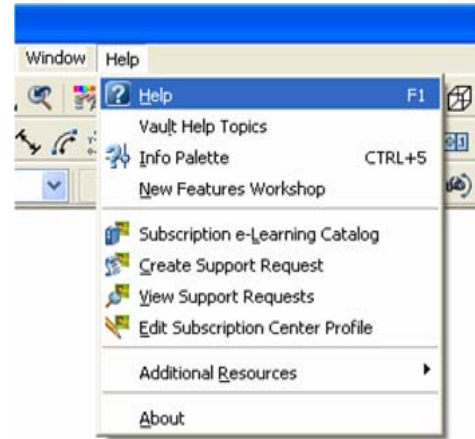
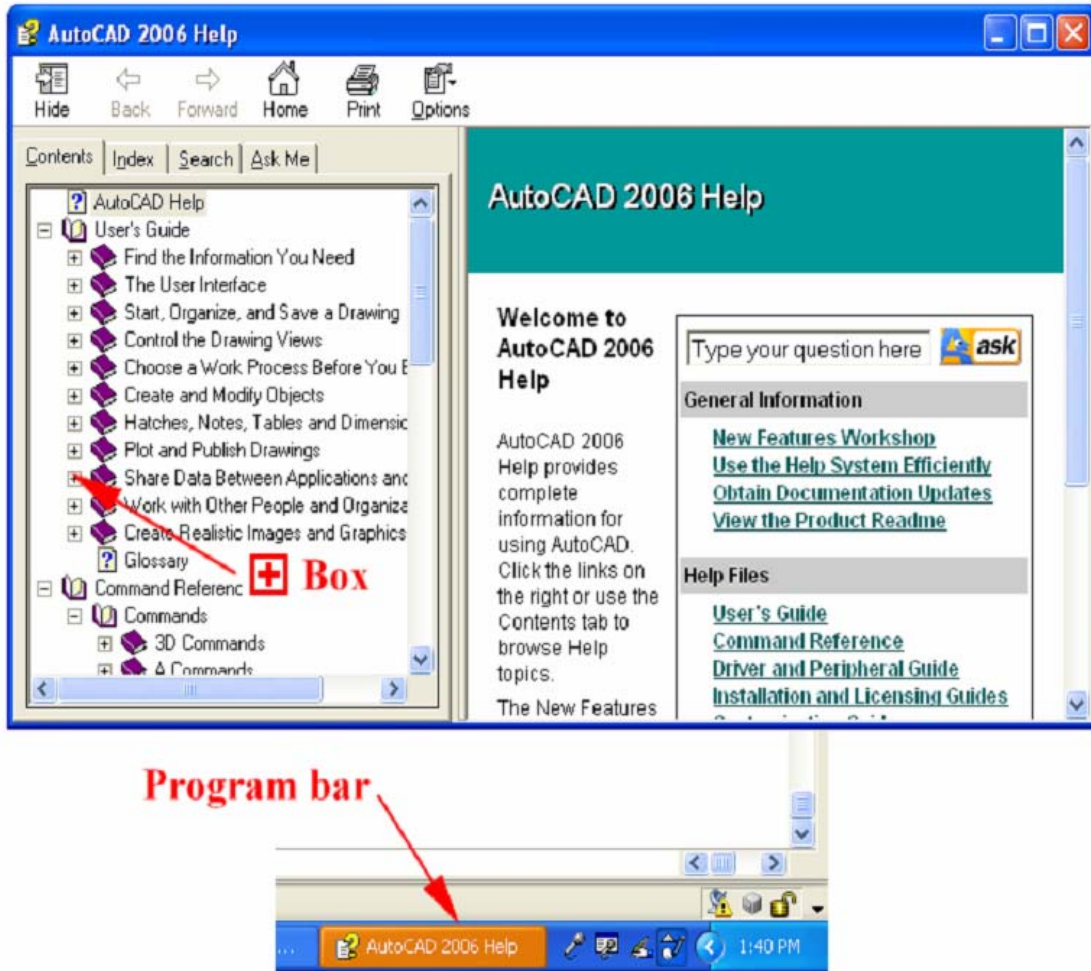
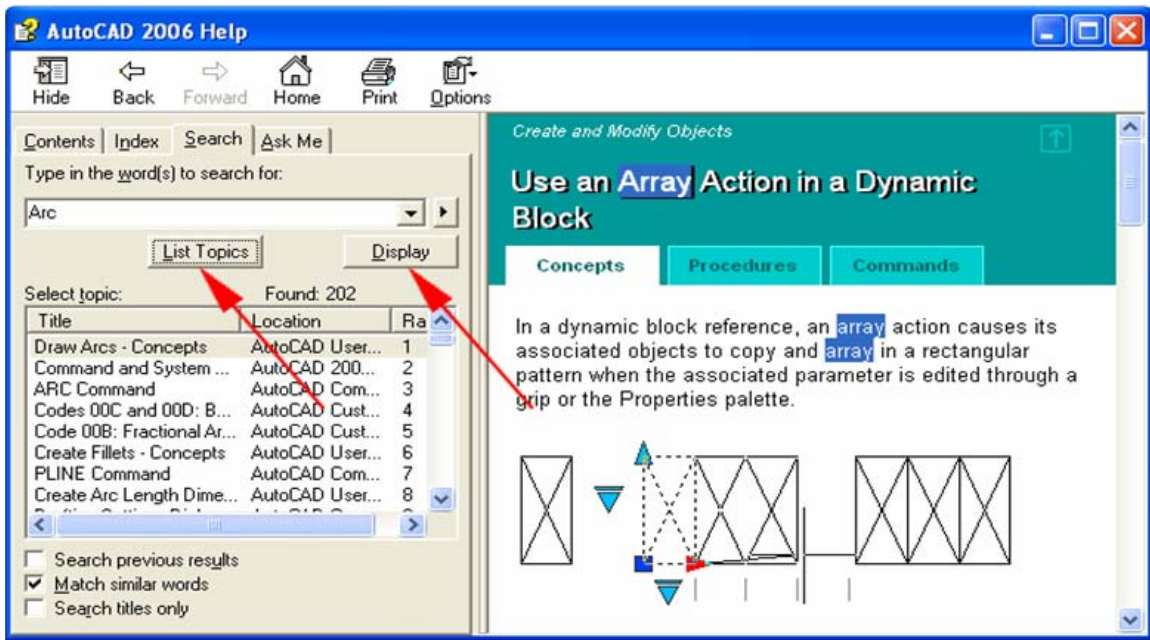

Figure 1-5F: Clicking-open the Help pull-down menu, or pressing the F1 key on the keyboard.
Figure 1-5G: The AutoCAD 2006 Help window with its bar docked on the Start menu bar at the bottom of the screen.
Figure 1-5H: The Search engine for AutoCAD program information.
**Help** pull-down menu (the rightmost on the menu bar), and choose the **Help** option (Figure 1-5F), or press the **F1** key on the keyboard to select the same menu, the **AutoCAD 2006 Help** window opens with its bar docked on the **Start** menu bar at the bottom of the screen (Figure 1-5G), if the **AutoCAD 2006 Help** window is hidden, then click bar to bring the window to the front. The **AutoCAD 2006 Help** window has two main panels; the left panel has several tabs; the **User's Guide** is under the **Contents** tab; the **User's Guide** is organized by topics; and to access the topics, click-open the boxed + sign on the left of the related topic listing. The **Search** tab allow user to type the text on requested information and obtain a list of related topics; to use this tool, click-open the **Search** tab, type a text string for requested information and click the **List Topics** button, a list of related topics appears in the left panel; click-select a listing, double-click on it or click the **Display** button, the information appears immediately on the right panel (See Figure 1-5H).